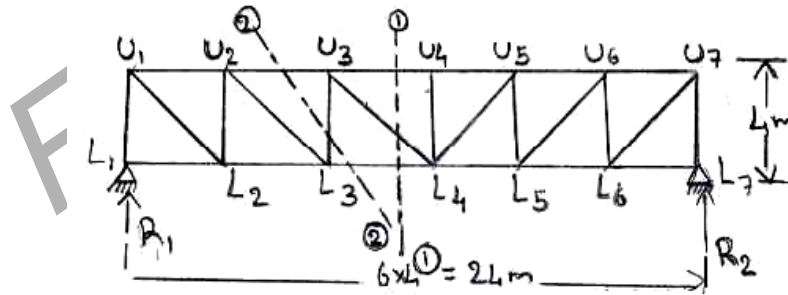

Figure 2
2. Draw the influence line diagram for forces in the members  $U_3L_4$ ,  $U_3U_4$  and  $U_3L_3$  of the frame shown in Figure 2 and find the maximum forces developed, when uniformly distributed load of intensity 40 kN/m, longer than the span moves from left to right on bottom chord. [16]